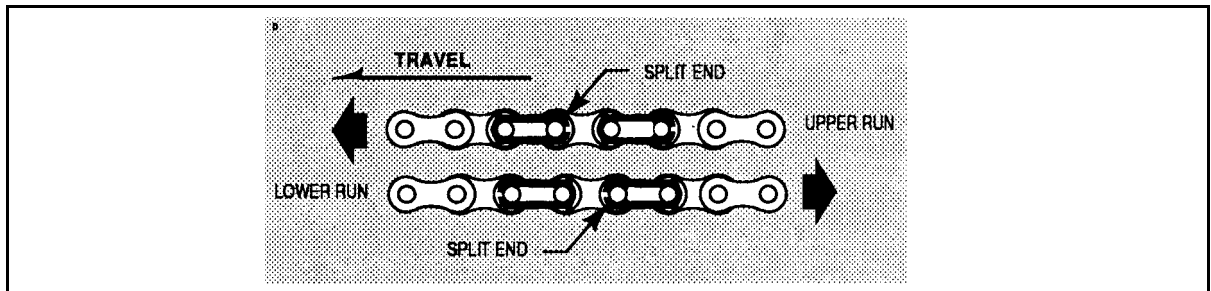

Figure G.40
Step 2. Orient each spring clip so that the “split end” is positioned as shown in Figure G.40 with the “closed end” towards the direction of chain travel.